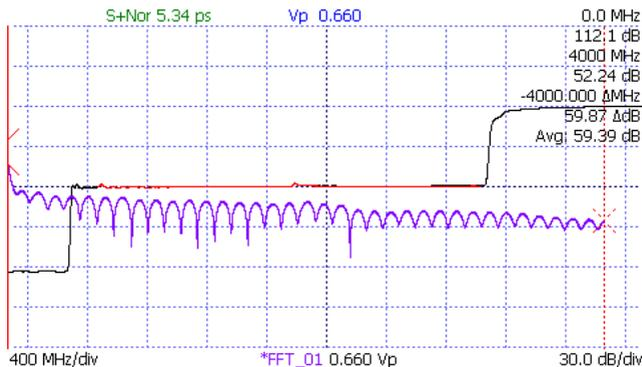

Figure 5.3. FFT trace (blue). The FFT plot was created from the section of the black live trace that is currently red.
4. Select *Apply FFT*. The CT100B will now take a high-resolution scan of the live trace between the cursors, and then convert the scan into an FFT plot. See Figure 5.3.